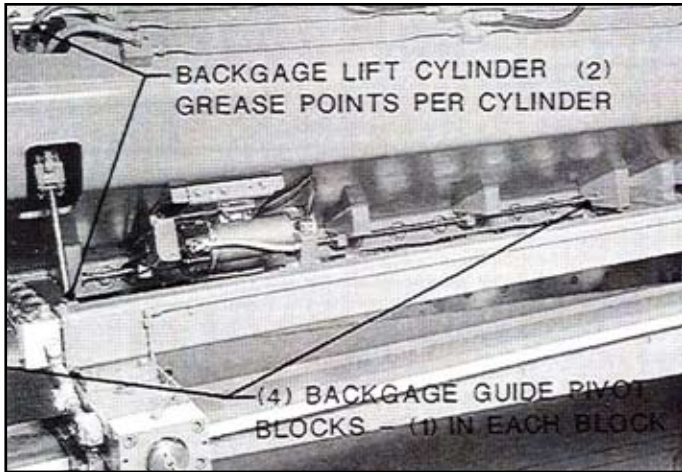

Figure 9-22 - Backgauge Lift Cylinder and Guide Pivot Block
3. **BACKGAGE LIFT CYLINDER SPHERICAL BEARINGS:** There is a grease fitting on the clevis at both ends of the lift cylinders. Lubricate with a #2 lithium base grease with "moly" additive (C.I. Grease H-2M). The upper fitting can be reached through an access hole in the ram brace. Lubricate every three months. See Figure 9-22.
4. **BACKGAGE GUIDE PIVOT BLOCKS:** There is a grease fitting in each backgage pivot block. There are two blocks at the ram end of each backgage guide. Lubricate with a #2 lithium soap base grease with "moly" additive (C.I. Grease H-2M). Lubricate every three months. See Figure 9-22.